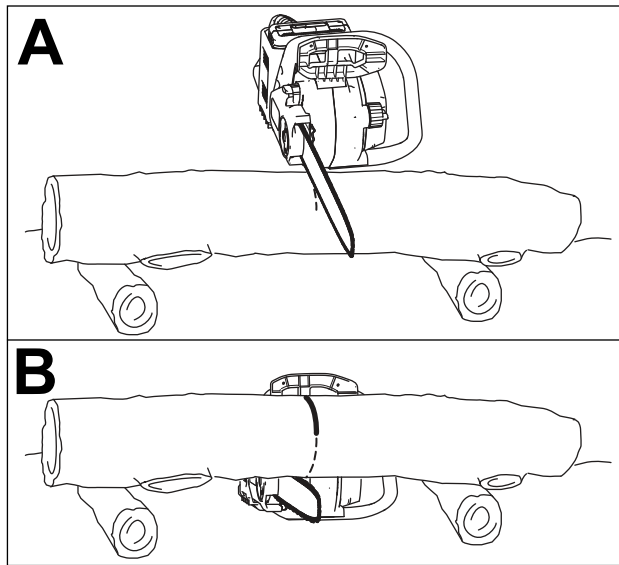

Figure 19
- If you are cutting branches from a fallen tree or cutting a log into lengths, support the log off the ground (preferably on a sawbuck); refer to Figure 19.